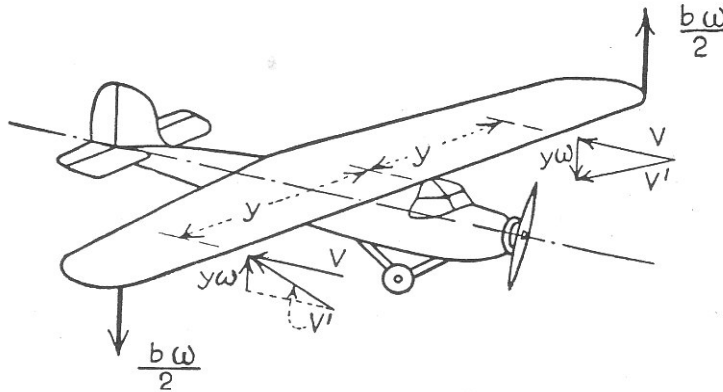
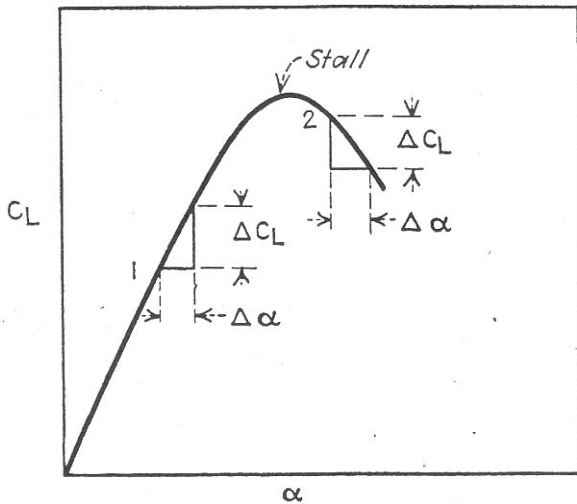

FIG. 158.—Resultant wind velocities due to roll.
FIG. 159.—Effect of change in angle of attack on lift below stall and beyond stall
**8:9. Autorotation—Spinning.**—Below the stall, wings resist being rolled because the wing moving downward gets a larger angle of attack (see Fig. 158), and hence gets more lift, but beyond the stall larger angle of attack gives *less* lift (see Fig. 159), so the wings roll themselves when held at a fixed angle of attack. This is called *autorotation*. It is, in a way, part of the penalty for a high value of  $C_{L_{\max}}$ , because, in general, the higher  $C_L$  goes, the faster it falls beyond the stall.